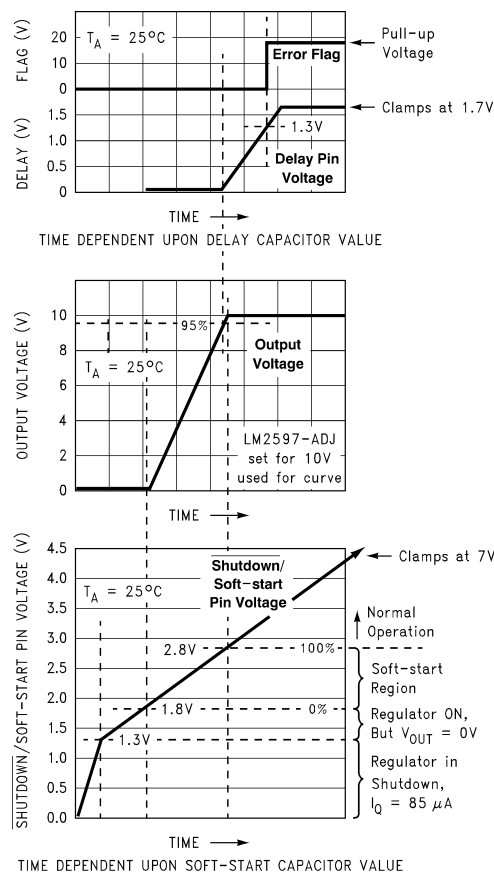
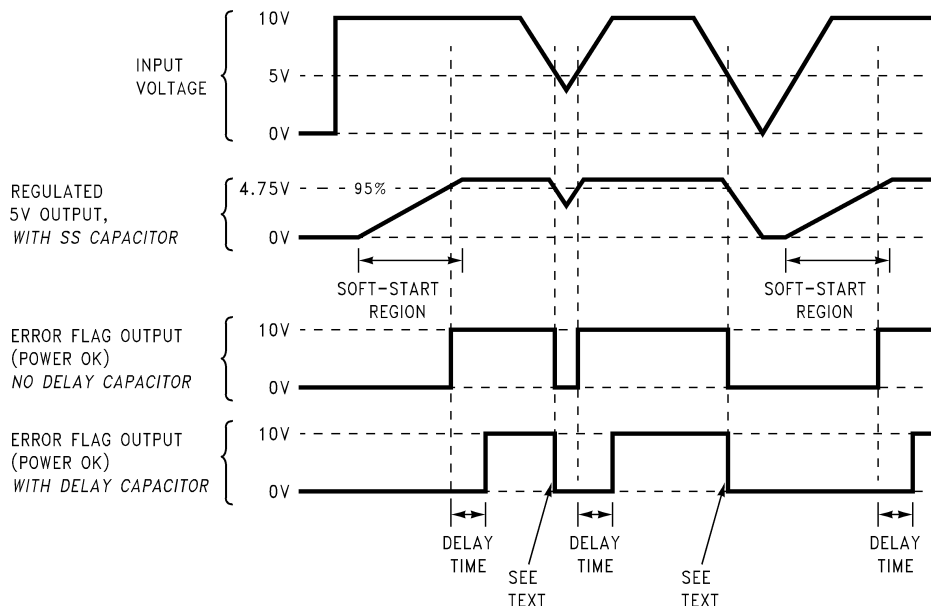

Figure 32. Soft-start, Delay, Error, Output
Figure 33. Timing Diagram for 5V Output
C_{SS} —A capacitor on this pin provides the regulator with a Soft-start feature (slow start-up). When the DC input voltage is first applied to the regulator, or when the Shutdown /Soft-start pin is allowed to go high, a constant current (approximately $5 \mu A$) begins charging this capacitor. As the capacitor voltage rises, the regulator goes through four operating regions (See the bottom curve in Figure 32).
- Soft-start Region.** When the \overline{SD} /SS pin voltage is between 1.8V and 2.8V (@ 25°C), the regulator is in a Soft-start condition. The switch (Pin 8) duty cycle initially starts out very low, with narrow pulses and gradually get wider as the capacitor \overline{SD} /SS pin ramps up towards 2.8V. As the duty cycle increases, the output voltage also increases at a controlled ramp up. See the center curve in Figure 32. The input supply current requirement also starts out at a low level for the narrow pulses and ramp up in a controlled manner. This is a very useful feature in some switcher topologies that require large startup currents (such as the inverting configuration) which can load down the input power supply.
The lower curve shown in Figure 32 shows the Soft-start region from 0% to 100%. This is not the duty cycle percentage, but the output voltage percentage. Also, the Soft-start voltage range has a negative temperature coefficient associated with it. See the Soft-start curve in Electrical Characteristics.
C_{DELAY} —Provides delay for the error flag output. See the upper curve in Figure 32, and also refer to timing diagrams in Figure 33. A capacitor on this pin provides a time delay between the time the regulated output voltage (when it is increasing in value) reaches 95% of the nominal output voltage, and the time the error flag output goes high. A 3 μ A constant current from the delay pin charges the delay capacitor resulting in a voltage ramp. When this voltage reaches a threshold of approximately 1.3V, the open collector error flag output (or power OK) goes high. This signal can be used to indicate that the regulated output has reached the correct voltage and has stabilized.